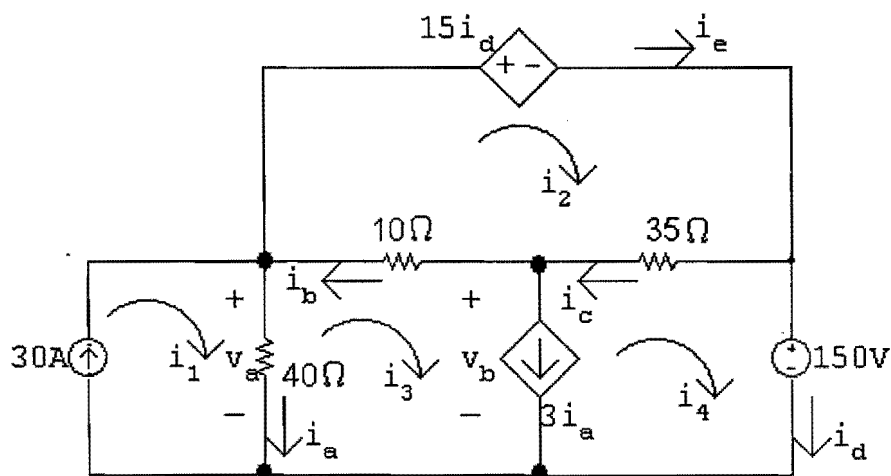

Figure 4
- a. Find the branch currents i_a to i_e for the circuit shown in Figure 4. [14 marks]